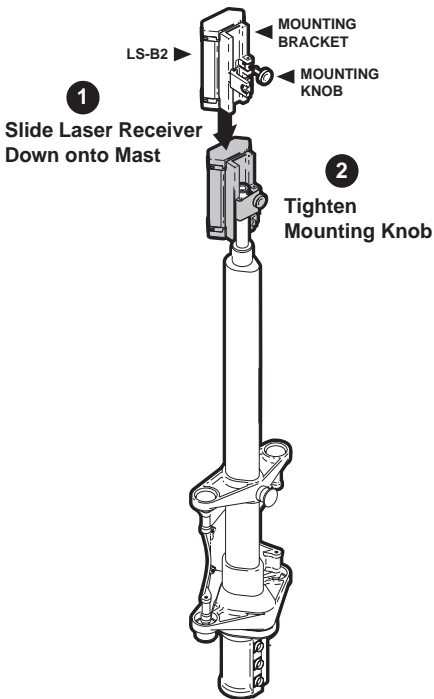

Figure 1-8. Attaching Laser Receiver to TM-1 Mast
2. Attach the laser receiver to the TM-1 mast or pole (Figure 1-8).